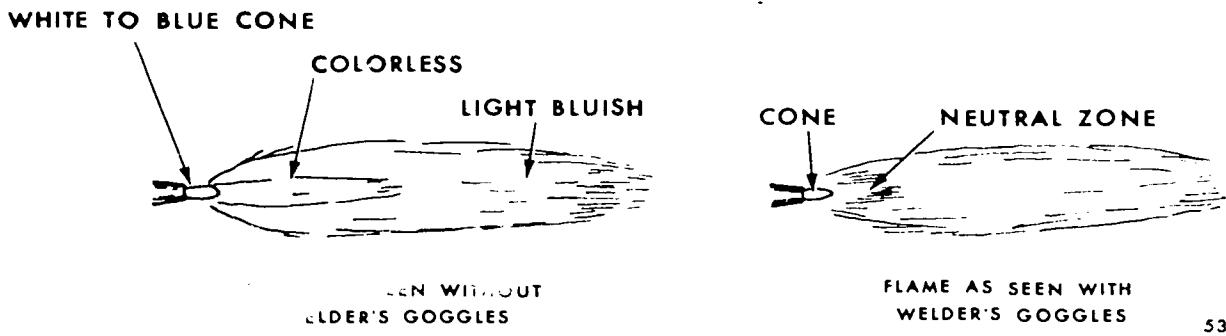

Figure 1-13. Neutral flame.
**Neutral Flame.** There are two clearly defined cones in a neutral flame. The inner cone is luminous and bluish-white. Around this cone is a colorless area surrounded by a large flame envelope or sheath, which is faintly luminous and has a light bluish tint, as shown in figure 1-13. The neutral flame is produced by a mixture of approximately 1 volume of oxygen and 1 volume of acetylene supplied from the torch. The temperature at the tip of the inner cone is approximately 5850° F.